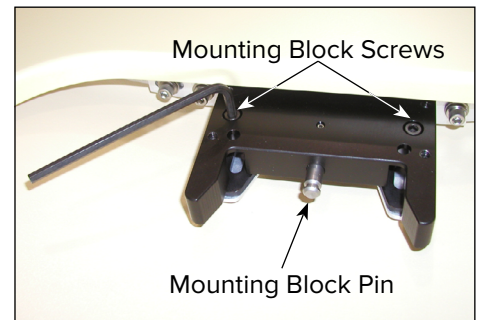

Fig. 13
! NOTE ! If more adjustment range is needed, remove the Mounting Block Screws shown in Figure 13 The Mounting Block can be lowered by removing the Spacer Plate. The Mounting Block can be raised by turning the four tilt adjustment screws equally with the $\frac{1}{8}$ inch Allen wrench and installing the optional, longer 1- $\frac{1}{8}$ in. Mounting Block Screws provided. Gently re-tighten the Mounting Block Screws.
- a. If the Alignment Pin is binding, you may adjust the tilt of the Mounting Block Pin by first loosening the Mounting Block Screws (Fig. 13).